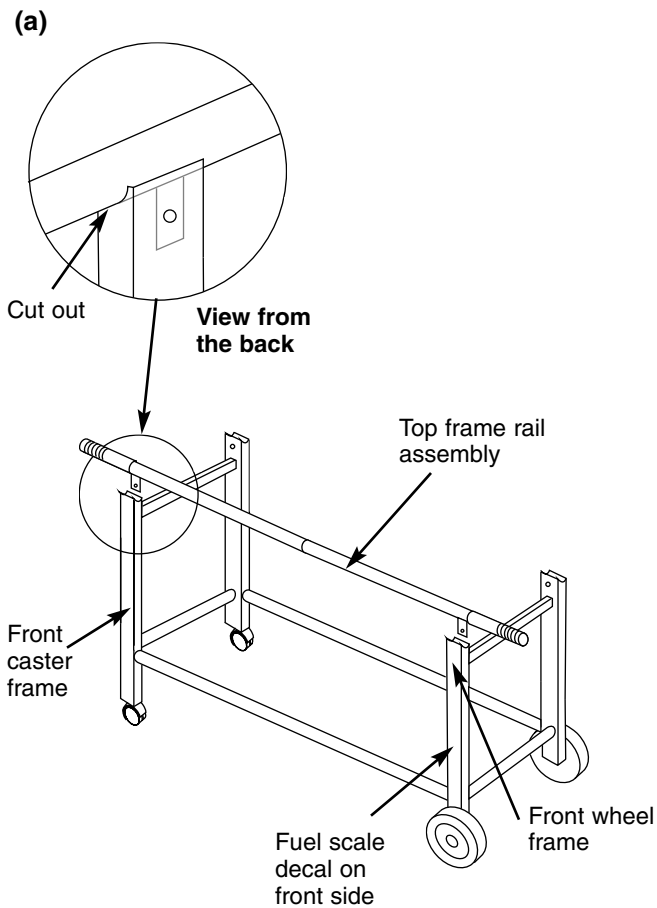

Figure 7
Position the top frame rail assembly with the tabs to the inside of the cart. Figure 7 (a).
b) the tabs of the top rail may not be to the inside of the cart. Refer to Figure 7.